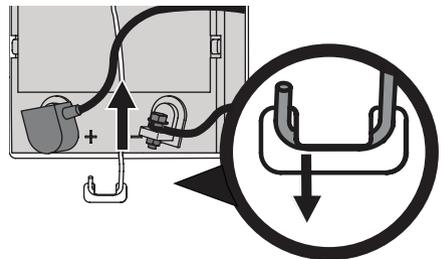

Figure 22
1. Remove the battery hold down bracket by pushing the hooked end out of the tab on the fender to the right side of the battery. Then flip the battery hold down bracket up to free the battery. See Figure 22.